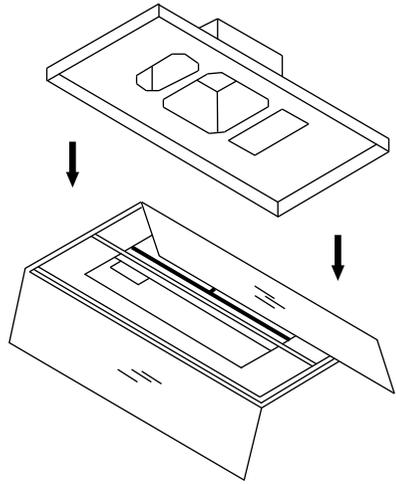

Fig 9
3. Take cover apart from body (Fig 9).